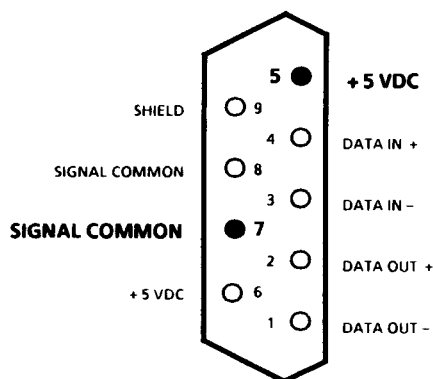

Figure 3.2 Serial Port Voltage Test Points
1. Check for +4.75 to 5.25VDC across pins 5 and 7 of the Model 400's serial port (COMM port) with a volt meter. Use Figure 3.2 for pin and signal identification.